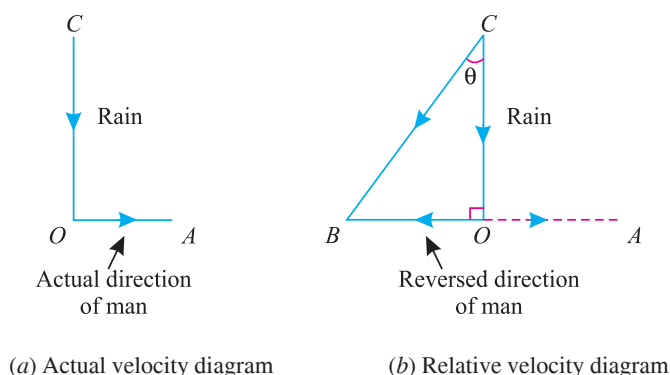

Fig. 19.1.
Now consider  $CO$  and  $OA$  as actual directions of the rain and man respectively as shown in Fig. 19.1 (a). The relative velocity diagram for rain and man may be drawn as shown in Fig. 19.1 (b) and as discussed below :
3. Let us \*superimpose a velocity equal and opposite to that of the man on both the man as well as rain. It will reduce the velocity of the man to zero. And the rain will have some resultant velocity (due to its own velocity and superimposed velocity) as shown in Fig. 19.1 (b).